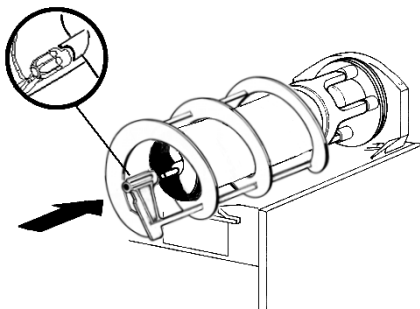

figure 16
- 6 - Install the outer spiral. Slide it over the evaporator until its front notch engages with the exposed end of the auger shaft (see figure 16).